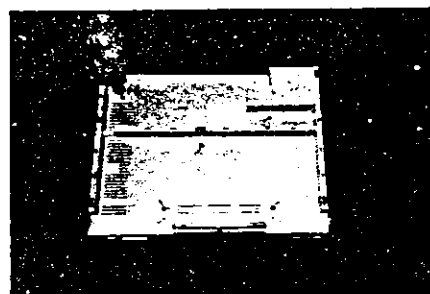

Fig. 2-4. Bottom View
**2.3.3** Turn the computer up-side down and remove the 5 self-tapping screws from the hollows of the bottom housing. See Fig. 2-4.
**2.3.4** Remove the 2 flush-mount screws located by the front bezel. See Fig. 2-4.